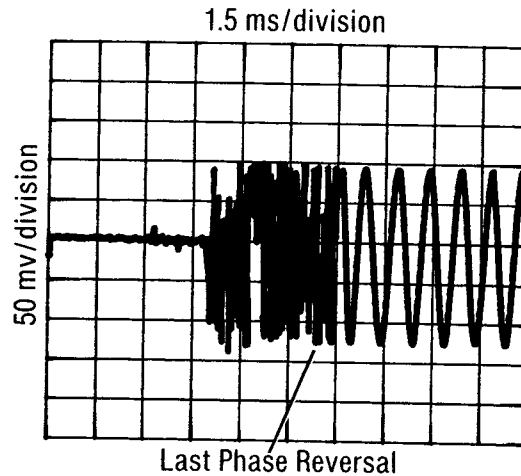

Figure 4-3. Frequency Switching Time Measurement Waveform
As the CW Generator output changes between the two programmed frequencies the IF signal will pass through zero. This will generate a phase reversal, as shown in Figure 4-3. The last phase change of the IF frequency is the point that the frequency of the unit under test is within the specified resolution.
- 5. Press the pause key on the controller to stop the program. Load and run the following program. The program will continue switching the CW Generator between 18 GHz and 2.1 GHz until the pause key is pressed. If necessary, adjust the oscilloscope triggering to obtain a display similar to that shown in Figure 4-3.
6. Measure the switching time by observing the signal on the oscilloscope display. The external trigger is the reference for determining switching speed. The switching time is measured from the display's left graticule to the last phase reversal (as the CW Generator passes the local oscillator frequency) before the IF signal settles into a steady frequency. Refer to Figure 4-3. Record the frequency switching time.